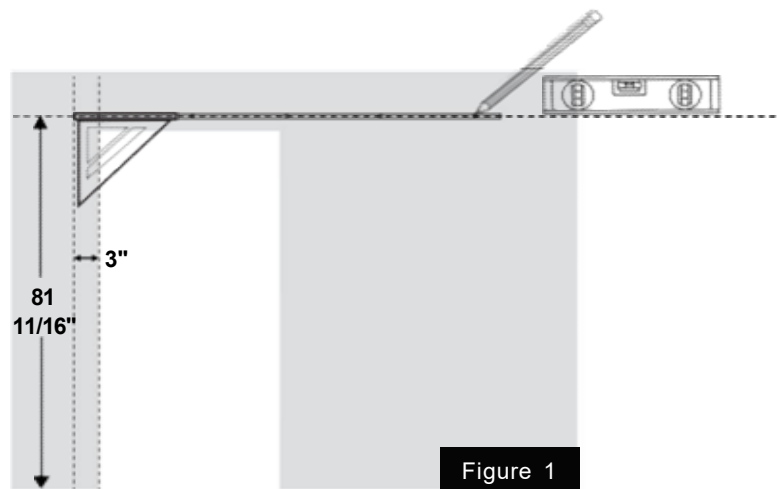

Figure 1
- Measure 3" over from the edge of the opening to **find end location** of the track. Mark with a pencil (Figure 1). This installation guide use right-sliding as an example. Measure from the other direction if you prefer door slide to the left when opening.